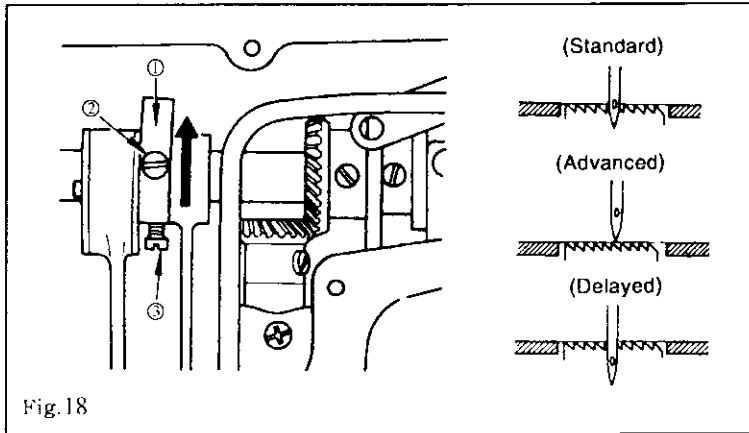

Fig.18
- 1) Loosen nut ②. As you turn presser spring regulator ① clockwise (in direction Ⓐ), the presser foot pressure will be increased.
- 3) After adjustment, tighten nut ②.
12. ADJUSTING THE FEED TIMING (Fig.18)